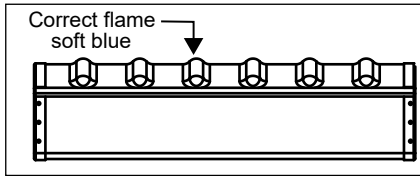

Figure 36 - Burner Flames
- Inspect the burner flames through the viewport and compare them to Figure 36 - Burner Flames. Flames should be very small with a blue haze and small amounts of yellow or orange at the edges. After several minutes of operation, the burner screen may glow red. If large flames are observed at any time, shut-off unit and call a qualified person.